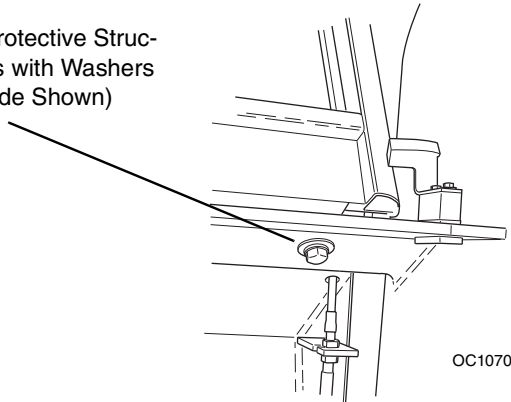

Figure 2-8 Operator's Protective Structure Retaining Bolts
- At the rear corners of the Operator's Protective Structure loosen the two bolts and washers (Fig. 2-8) that secure it to the frame. The bolts are retained and will not come completely out of the frame.
- At the rear corners of the Operator's Protective Structure, retighten the two bolts and washers (Fig. 2-8) through the access openings on each side of the vehicle, and torque to 150 lb/ft (203 Nm).